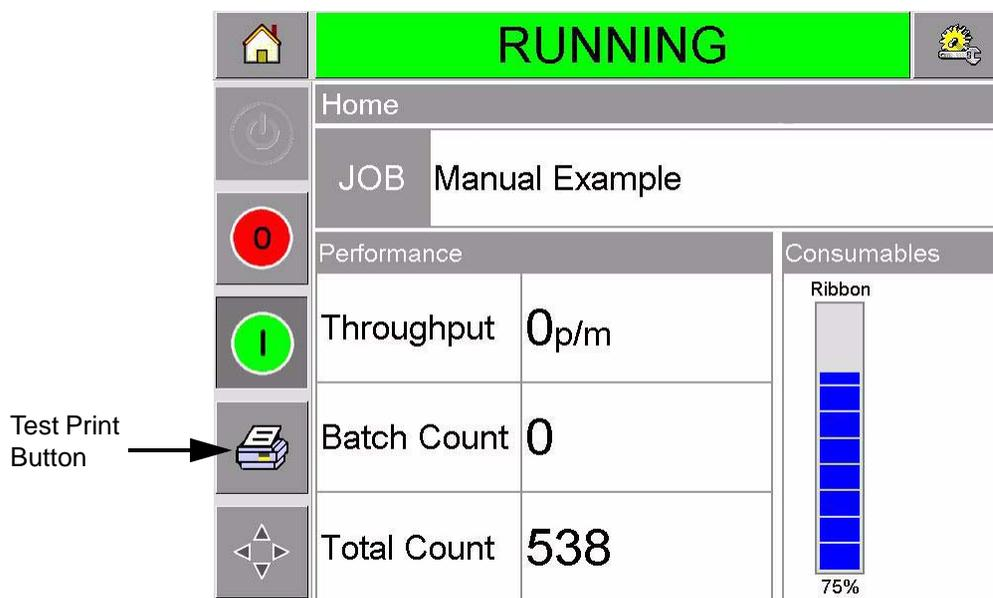

Figure 3-13: Test Print Button
A test image can be printed before running the printer to check if the printed image is of acceptable quality. The Test Print button (Figure 3-13), will appear greyed out if this feature has been disabled by the installation engineer. Also, the printer must be set to RUNNING state for the Test Print button to be available.
- 3** Touch the Test Print button in the Control Frame (Figure 3-13 on page 3-12). The printer performs the test print.